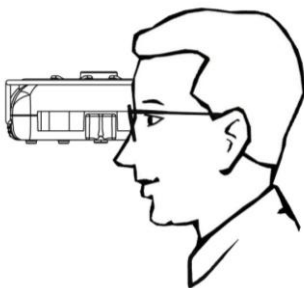

Figure 5
- 2) Turn the Focal Distance Adjustment Knob(8) to the 30cm position.
- 3) Optometrist stands to the lateral side of the patient and holds the pupil meter horizontally. (Figure 5) If the optometrist is on the left side of the patient, please use the right window(10); If the optometrist is on the right side of the patient, please use the left window(10).